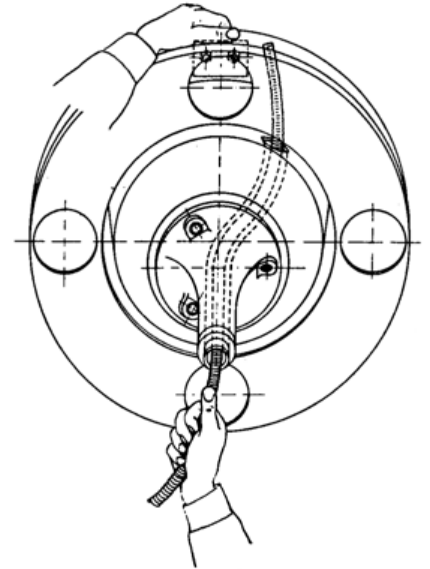

FIG. 6
3. Face the machine from the front. Place your left hand on top of the external drum; press the heads of the cable clamp screws forward with two fingers on your left hand. Sight through the cut-out in the cover of the external drum and rotate the inner drum with your right hand; position the inner drum so that the distributor arm is aligned slightly to the right of the cable clamp. See Figure 6.